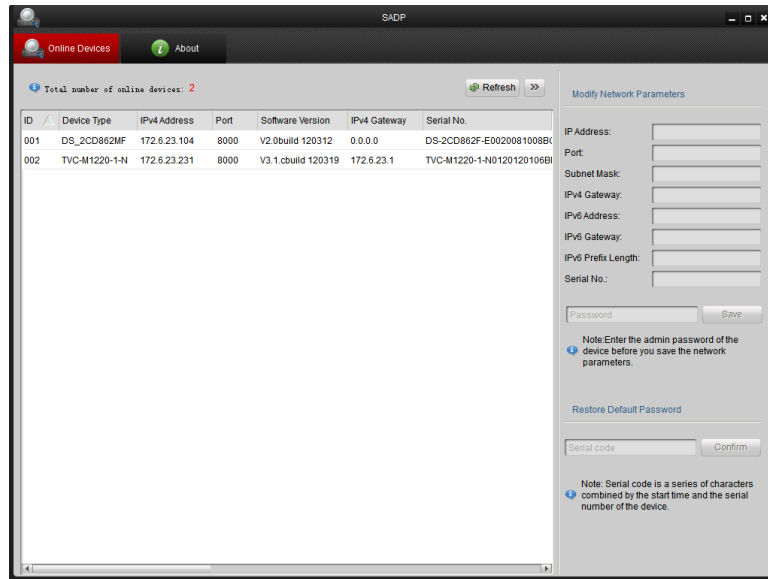

Figure 2-3 SADP Interface
- ◆ Use SADP, a software tool which can automatically detect the online network speed domes in the LAN and list the device information including IP address, subnet mask, port number, device serial number, device version, etc., shown in Figure 2-3.